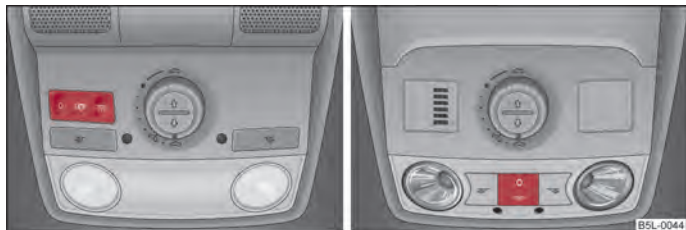

Fig. 31 Front vehicle interior lighting
- Press the switch at the point of the symbol ☞ ⇒ fig. 31.
- Position the switch into middle position. On vehicles without interior monitor, the middle position is marked with a symbol ☞ ⇒ fig. 31 - left.